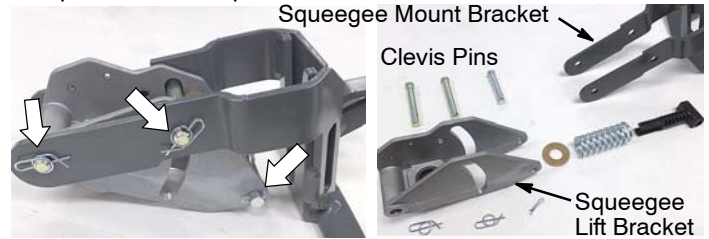

Fig. 4
5. Disassemble the squeegee mount bracket from the lift bracket by removing two clevis pins (Figure 4). If replacing the squeegee lift bracket, also remove clevis pin with cotter pin.